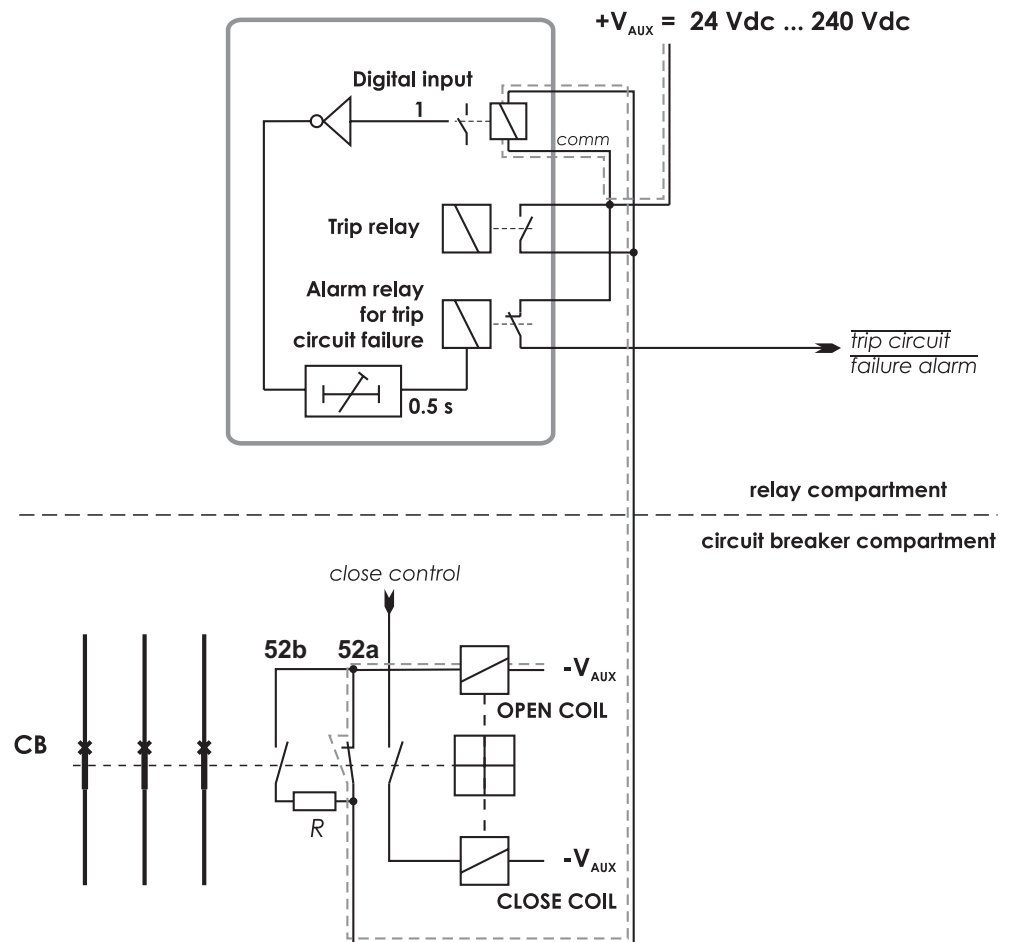

Figure 7.12: Trip circuit supervision using a single digital input and an external resistor *R*.
- The digital input is connected parallel to the trip contacts (Figure 7.12).
- The digital input is configured as normal closed (NC).